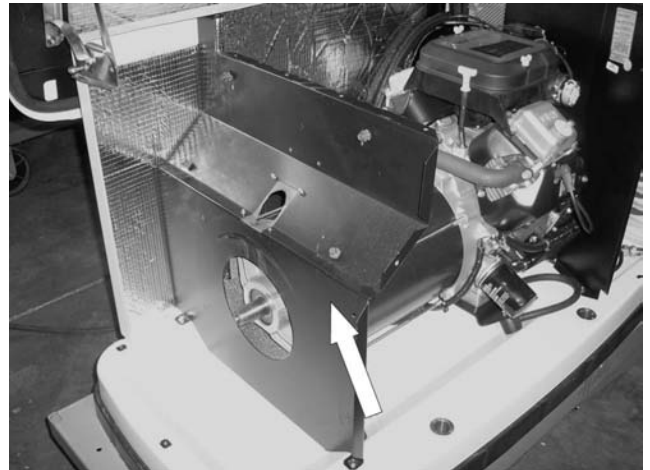

Figure 34.
11. Remove Alternator Divider Panel: Using a 10mm socket remove two bottom base bolts. Using a T27 torx driver remove one top rear bolt. Remove the panel. See Figure 34.